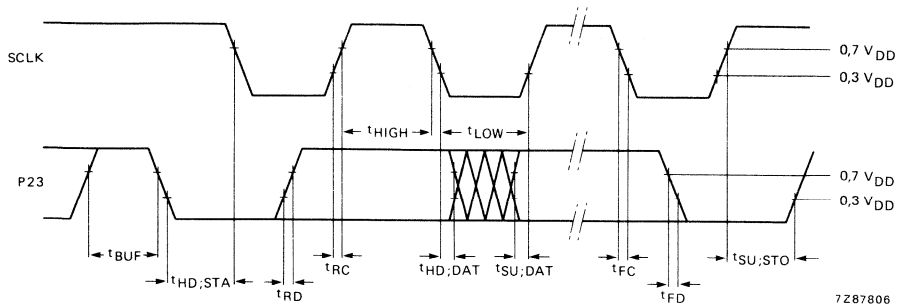

Fig. 30 PCD3343 timing requirements for the P23 and SCLK *input* signals.
**Table 9** Input timing shown in figure 30